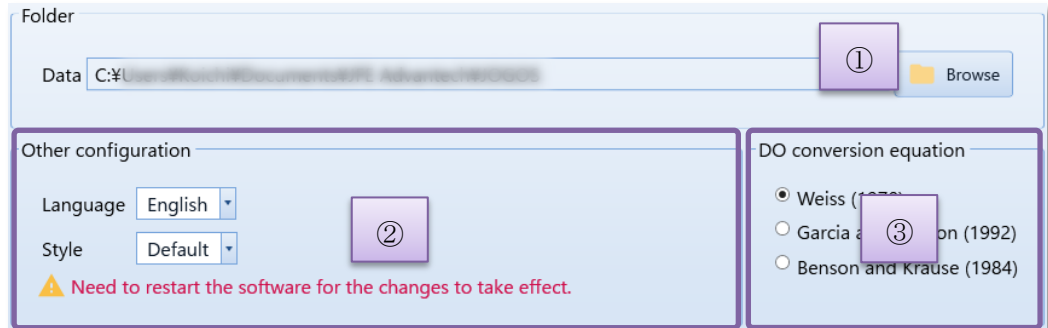

Figure 7.4 Software Setting
- (1) Open “Option” window and choose “Software”. (Figure 7.4 / Table 7.4)